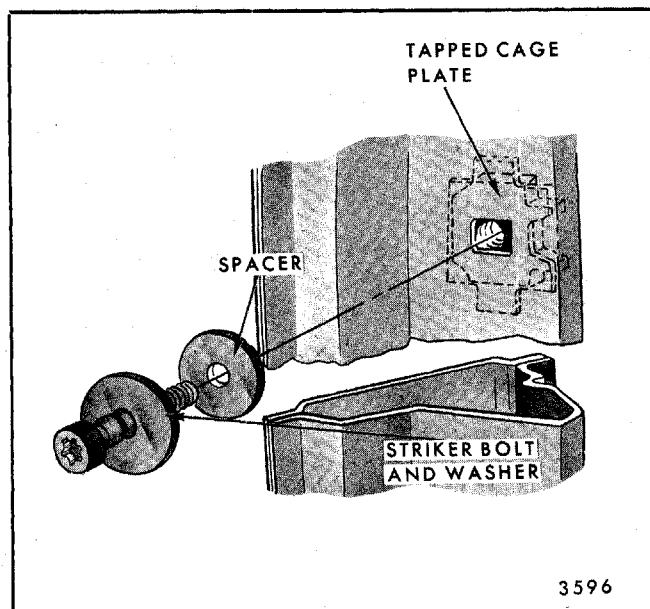

Fig. 5-52-Door Lock Striker Installation
2. Insert tool J-23457, BT-7107 or equivalent into the star-shaped tool recess in the head of the striker bolt and remove striker (refer to Fig. 5-52).